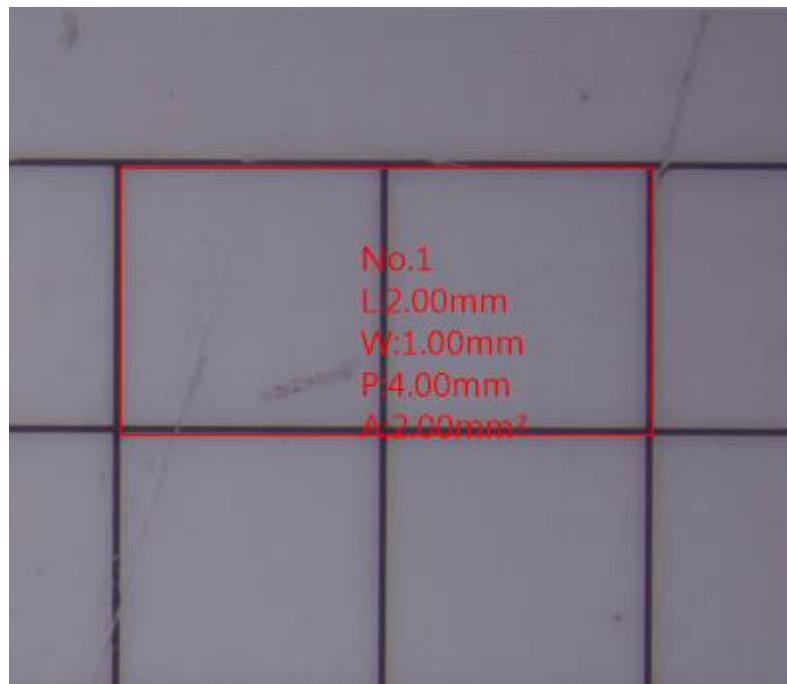

Fig.5-6 Rectangle measurement
- (6) Rectangle : The object is quadrilateral that can apply  tool as Fig. 5-6. The  tool measure and show Rectangular circumference ($P=4.00\text{mm}$), Horizontal length ($L=2.00\text{mm}$) 、 Vertical length ($W=1.00\text{mm}$) 、 Rectangular area ($A=2.00\text{mm}^2$).